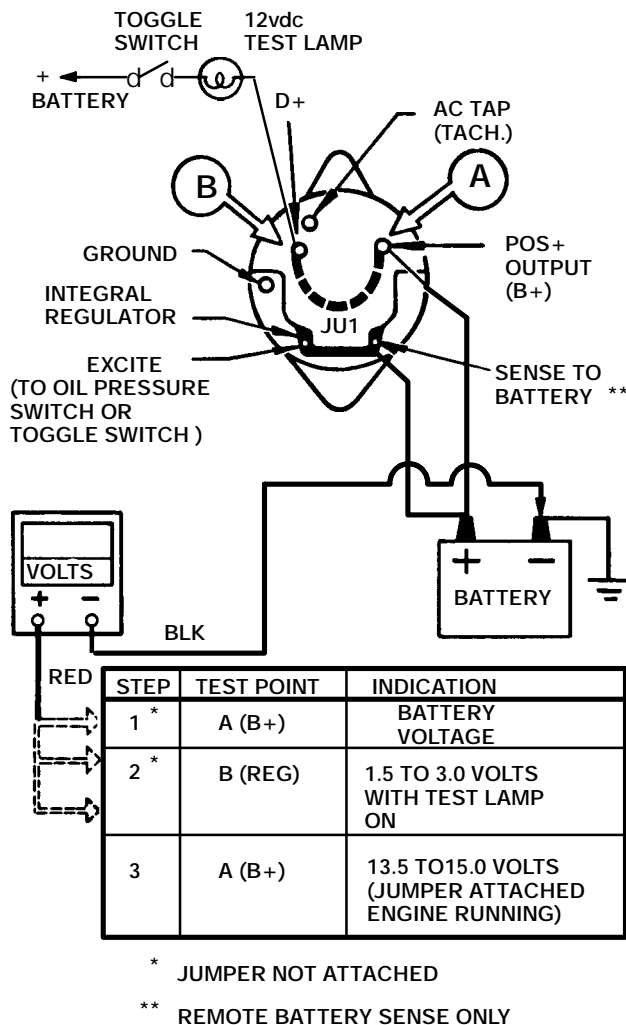

Figure 4-8. Open Diode-Trio Test – 65 Amp
a. With jumper not attached. Check for battery voltage at terminal A and for 1.5 to 3.0 volts at terminal B, see Figure 4-8.